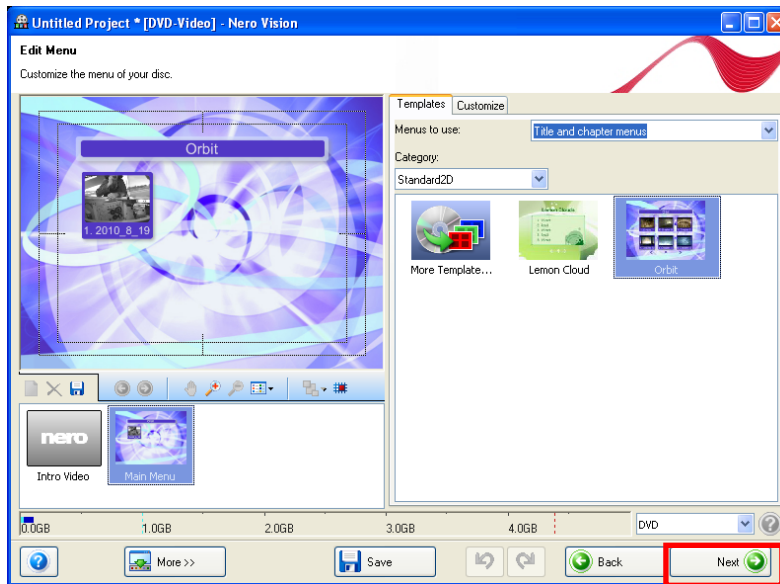

Figure 168. AAR – Edit Menu
6. An Edit Menu window will appear, which allows you to edit as desired (Figure 168).